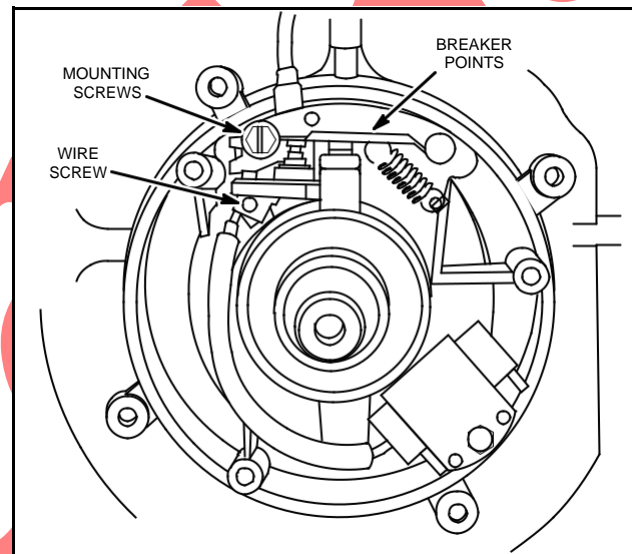

Fig. 91 – REMOVING STYLE III BREAKER POINTS
1. Remove screw holding breaker assembly to cylinder block, Fig. 91.